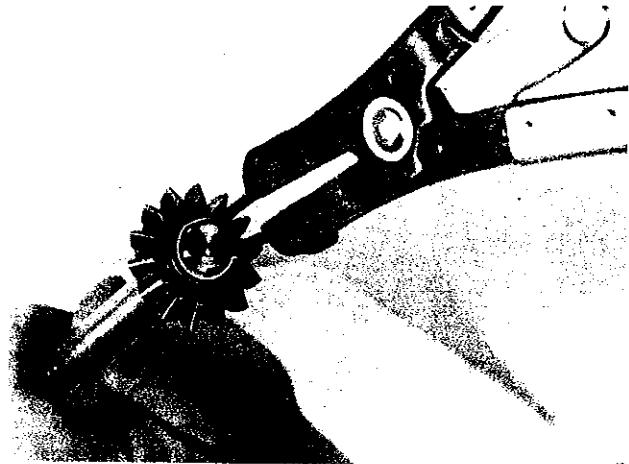

Figure 7. Remove retainer ring.
- L. Use snap-ring pliers to remove pinion gear retaining ring from drive shaft (Figure 7.)